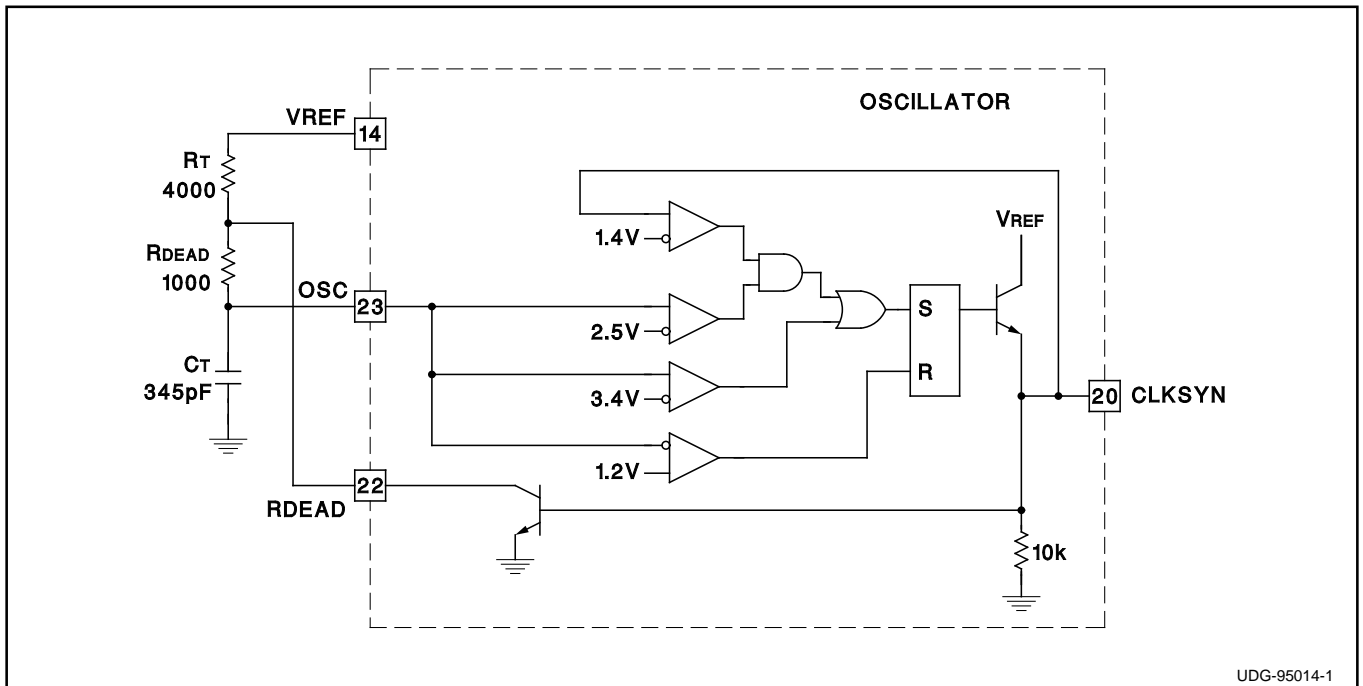
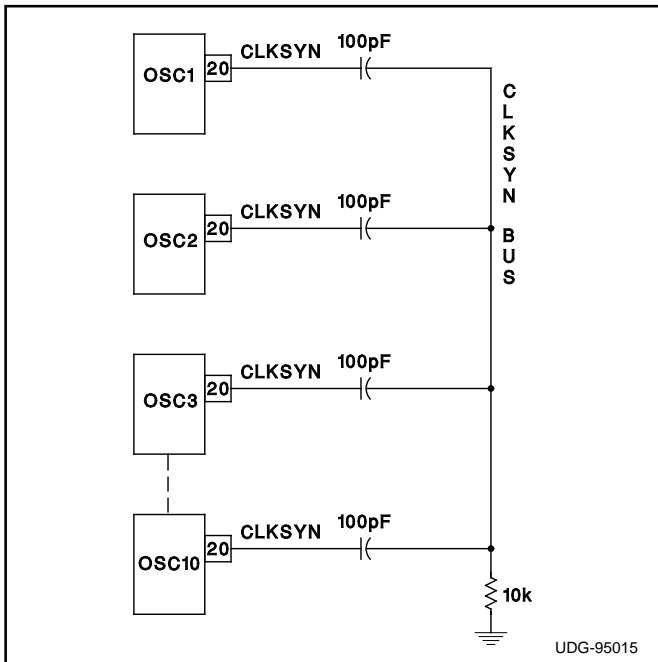

Figure 1. Oscillator Block with External Connections
Figure 3. Oscillator Synchronization Connection Diagram
The oscillator block diagram with external wiring is shown in Figure 1. OSC has a capacitor (CT) to ground and two resistors in series (RT and RDEAD) to VREF. The total resistance of RT and RDEAD divided by VREF – Vosc sets the exponential charge current. The oscillator charges from 1.2V to a 3.4V threshold with an RC time
As shown in Figure 3, several oscillators are synchronized to the highest free running frequency by connecting 100pF capacitors in series with each CLKSYN pin and connecting the other side of the capacitors together forming the CLKSYN bus. The CLKSYN bus is then pulled down to ground with a resistance of approximately 10k. Referring to Figure 1, the synchronization threshold is 1.4V. The oscillator blanks any synchronization pulse that occurs when OSC is below 2.5V. This allows units, once they discharge below 2.5V, to continue through the current discharge and subsequent charge cycles whether or not other units on the CLKSYN bus are still synchronizing. This requires the frequency of all free running oscillators to be within 40% of each other to guarantee synchronization.